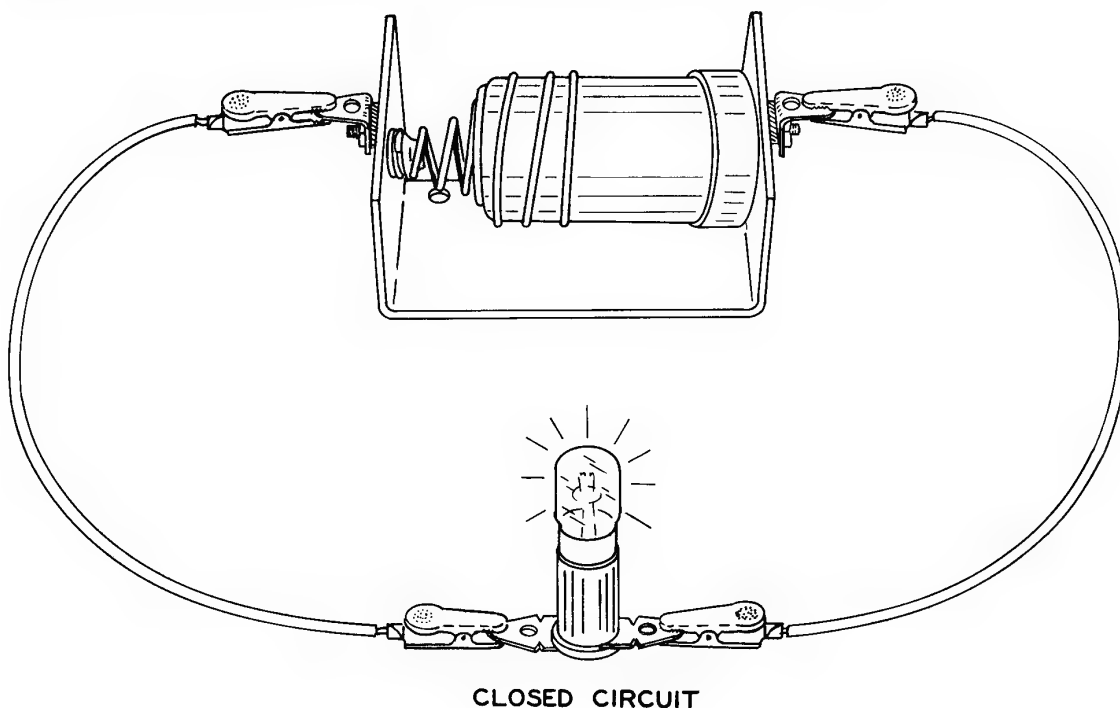
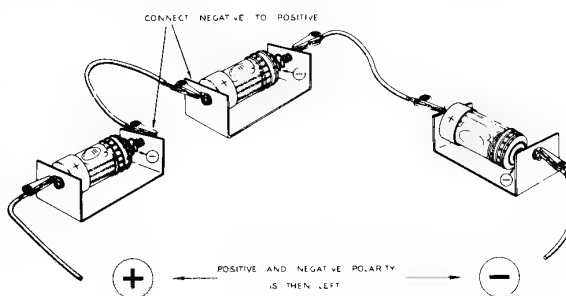
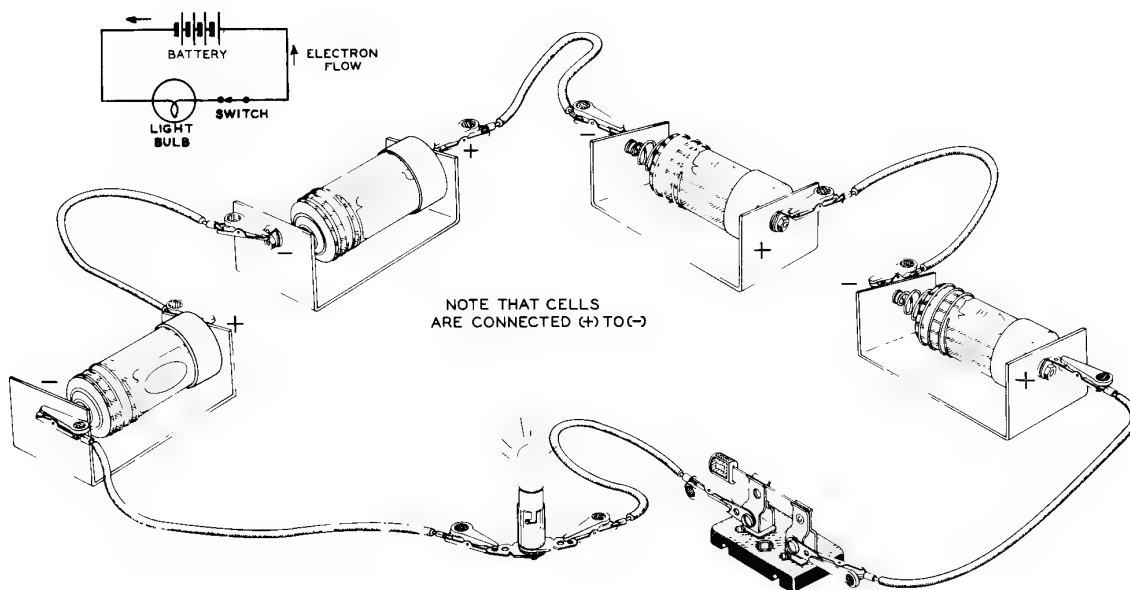
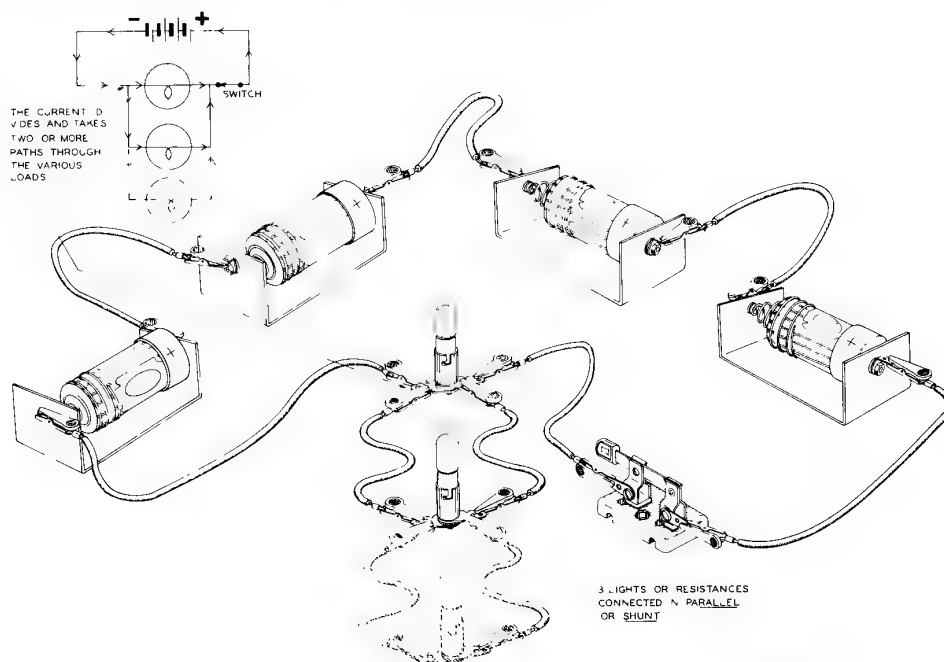

Figure 1-6
Figure 1-17
Figure 1-18
Figure 1-22
Construct the following **DIRECT CURRENT SERIES CIRCUIT**, Figure 1-6.
With the valve closed and tank M filled with water, as shown, we know that a pressure exists against the valve for if it is opened, water will flow into tank N. Therefore, a pressure exists between M and N because an excess of water exists in tank M and a deficiency of water exists in tank N. Tank M, with its excess of water, would compare with the zinc electrode (Figure 1-11B) and its excess of electrons while tank N, with a deficiency of water, compares with the carbon electrode and deficiency of electrons. If we open the valve, the water in tank M will flow into tank N until the level of water in both tanks is the same. At this time, no difference of pressure exists at the valve as the water has stopped flowing through the valve. The same condition can exist in the dry cell if we use the dry cell for several hours, as in Figure 1-6, or short it by connecting a wire from one terminal to the other for five or ten minutes. If the cell is allowed to rest for several hours or longer, the chemical action will have restored an excess of electrons on the zinc container and a deficiency of electrons on the carbon rod, at which time the cell is again useable.
When you connected Figure 1-6 and caused the lamp to glow, you probably wondered why it did not glow very brightly. The reason is that not enough electrons were flowing through the filament to heat it to proper brilliance. To force more electrons through the filament, the electrical pressure must be increased by using more cells connected together in a string, as in Figure 1-17, so that the electrical pressure of each cell will aid the next one. Actually, six volts of electrical pressure is needed to cause the correct current of .15 amperes to flow through the filament of a #47 lamp. Since each flashlight cell develops approximately 1.5 volts of electrical pressure, it would take four flashlight cells connected in series to make 6 volts, since $4 \times 1.5 \text{ volts} = 6 \text{ volts}$. Connect the other three dry cells in series to form a battery of cells, or simply a battery, as shown in Figure 1-18.
In the parallel or "shunt" circuit, the current that comes from the electrical source divides and takes two or more paths through the various loads before it returns to the same electrical source. In Figure 1-22, we see that two lamps have been connected so that the current from the electrical source divides and flows through each lamp. With connecting wires, socket, and lamp revise your circuit of Figure 1-18 to correspond with Figure 1-22.
30. Draw a schematic diagram of a direct current parallel circuit using four cells, two light bulbs and connecting wires. (Check drawing with Figure 1-22, Page 13.)
29. What three things go into making a direct current series circuit? Answer: (1) A source of power that will deliver a continuous flow of current, (2) a load, and (3) connecting wires such that the current flows through the circuit from one place to the next place in succession.
33. What three things go into making a direct current parallel circuit? Answer: (1) A direct current power source, (2) two or more loads, and (3) connecting wires such that the current takes two or more paths through loads before it returns to the same electrical source.